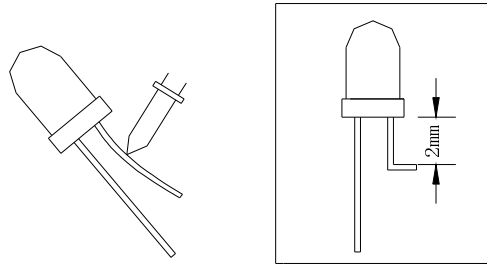

Fig.7
- 1) The lead should be bent at a point located at least 2mm away from the package. Bending should be performed with base fixed means of a jig or pliers (Fig.7)